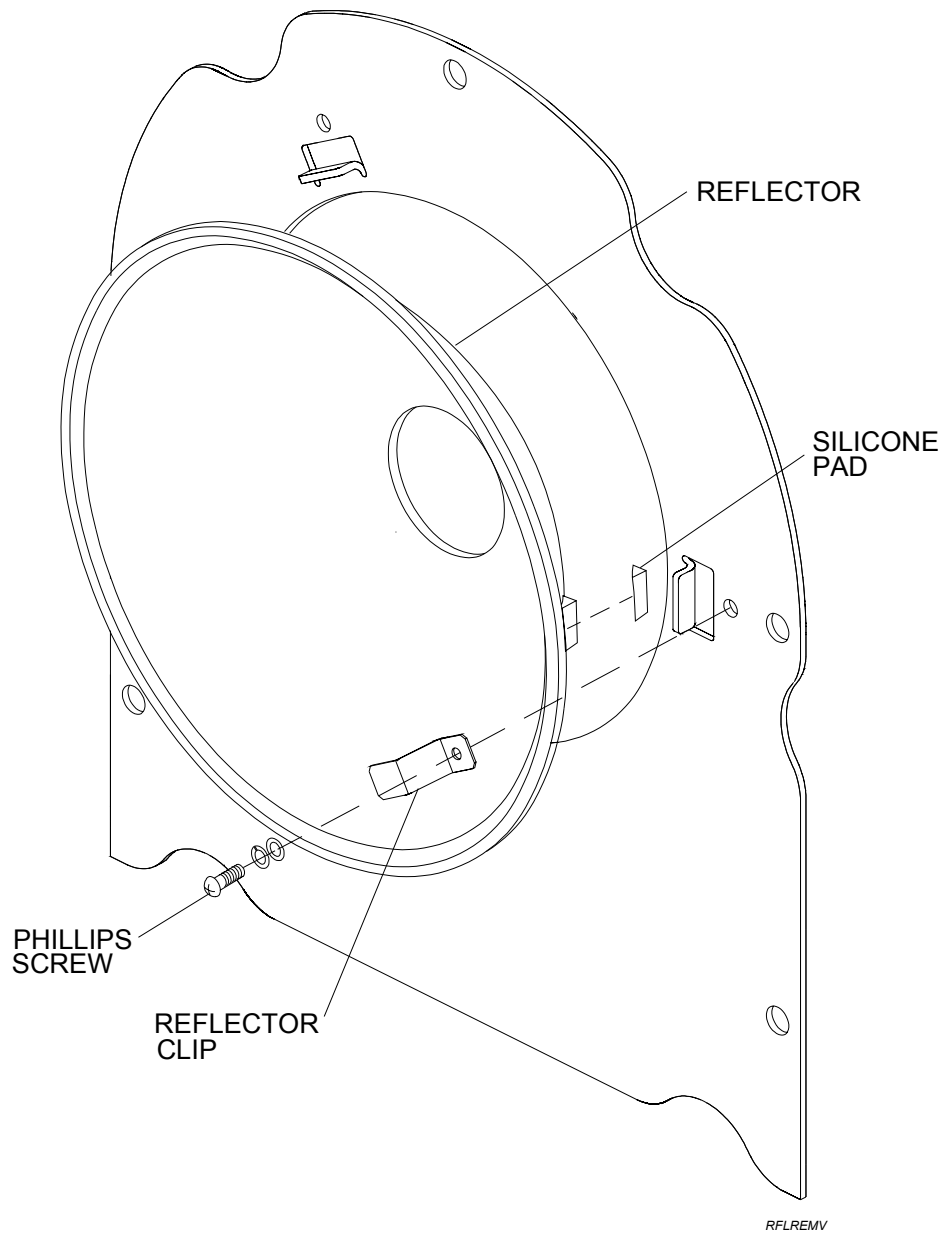

Figure 6.4 - Replacing the Reflector.
3. Using #2 Phillips screwdriver, gradually loosen three reflector mounting clips in a circular pattern. Loosen until clips will pivot off reflector lip without completely detaching (Figure 6.4).